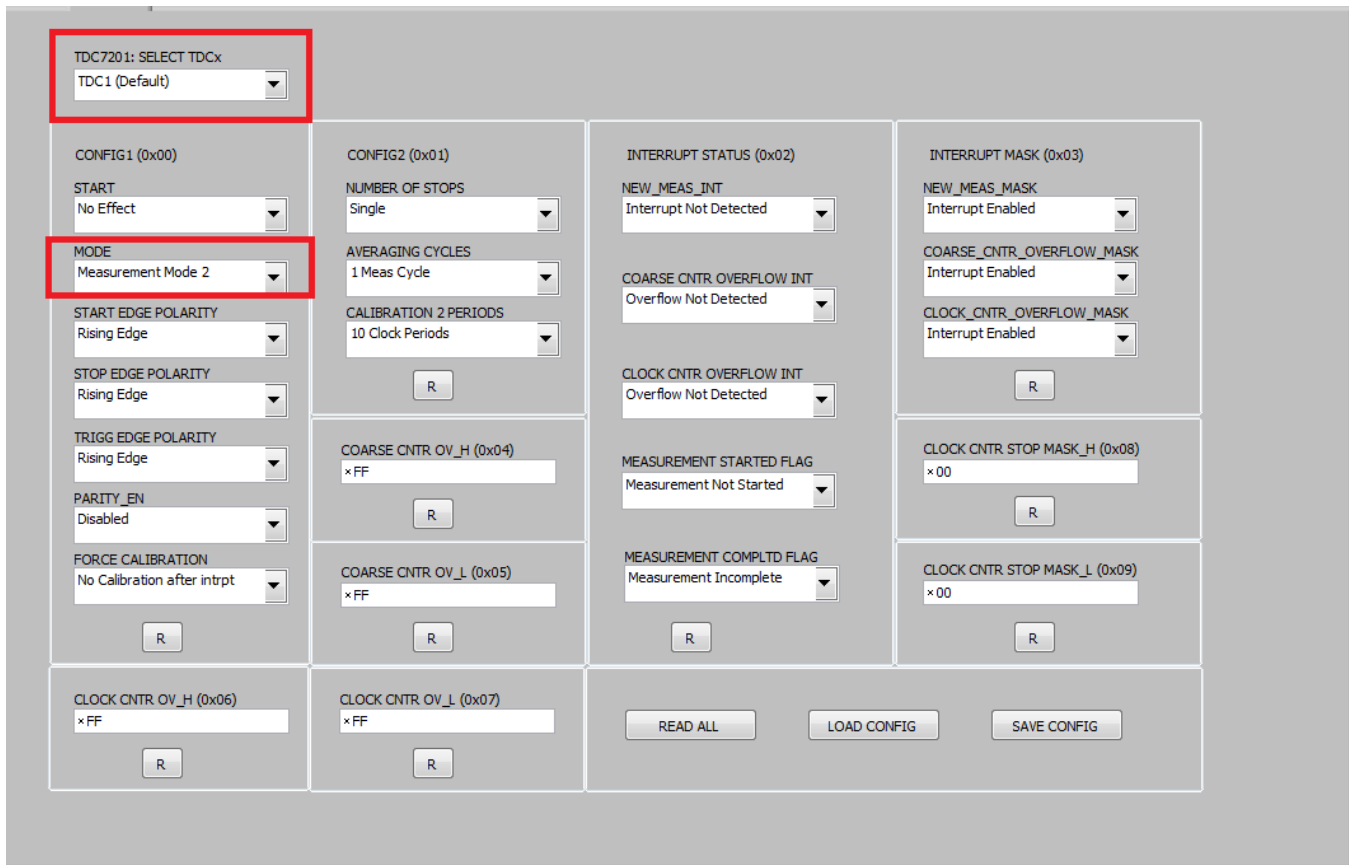

Figure 8. Recommended TDC7201:TDC1 Register Configuration
2. Click on the **TDC720x** tab and make sure TDC1 is selected with the register configuration in Figure 8: